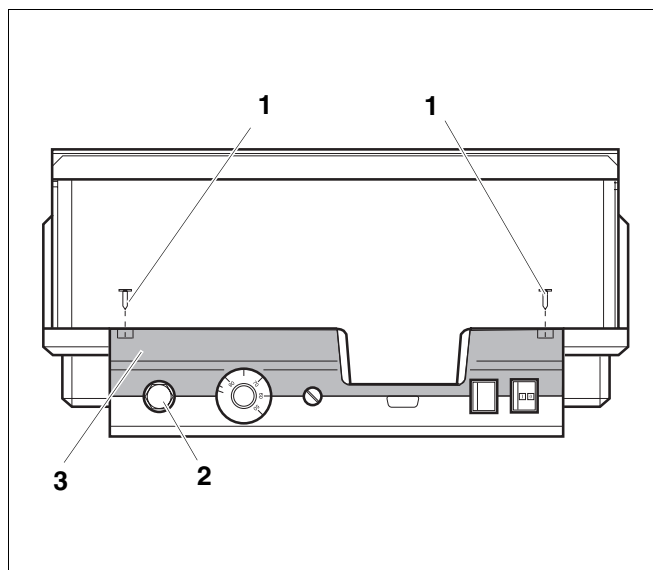

Fig. 2 Logamatic 4... control unit
- The high limit safety cut-out (STB) (Fig. 2, **Item 2**) must be removed from its housing before the required temperature can be set.
- Unscrew both screws (Fig. 2, **Item 1**) to remove the high limit safety cut-out.
- Remove the cover (Fig. 2, **Item 3**).
- Unscrew the protective cap (Fig. 2, **Item 2**).